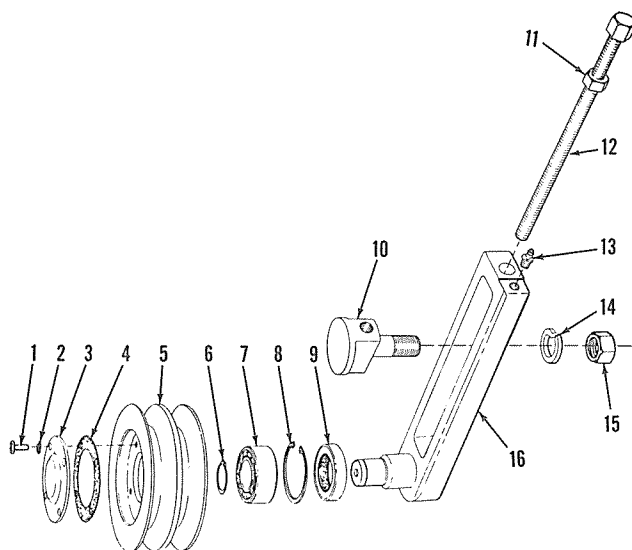
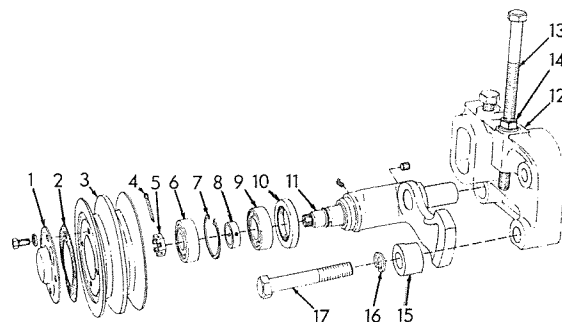

Fig. 9—Fan Belt Tightener Details
Fig. 10 — Fan Belt Tightener Details
d. Install fan (1) and fan spacer (2) if so equipped.
1. FAN BELT TIGHTENER REMOVAL, DISASSEMBLY, AND INSPECTION (TRACK-TYPE TRACTORS) Fig. 9
- Remove nut (15) and lockwasher (14) from slide clamping bolt (10) and remove fan belt tightener from fan mounting bracket.
- Remove pulley cover (3) and gasket (4).
- Remove front snap ring (6).
- Place tightener assembly in a press, pulley side up, and press fan belt tightener slide (16) from pulley (5).
- Remove oil seal (9) and rear snap ring (8) and drive or press ball bearing (7) from pulley (5).
2. FAN BELT TIGHTENER REMOVAL, DISASSEMBLY, AND INSPECTION (MOTOR GRADERS) Fig. 10
- Remove locking clamp capscrew (17), lockwasher (16), and locking clamp (15).
- Pull fan belt tightener assembly from fan mounting bracket (12).
- d. Remove pulley cover (1) and gasket (2).
- e. Place tightener assembly in a press, pulley end up. Press on front end of lever assembly (11) and press lever out of pulley (3).
- f. Drive or press front ball bearing (6) from pulley (3). Remove snap ring (7) and bearing spacer (8).
- g. Drive or press rear ball bearing (9) and oil seal (10) from pulley (3).
1. FAN BELT TIGHTENER ASSEMBLY AND INSTALLATION (TRACK-TYPE TRACTORS) Fig. 9
- a. Press ball bearing (7) into pulley (5) so that it is tight against counterbore in pulley.
- b. Install rear snap ring (8) and oil seal (9) with sealing lip of seal directed toward rear of pulley.
- c. Drive or press tightener slide shaft into position in pulley. Install front snap ring (6).
- d. Install gasket (4) and pulley cover (3).
- f. Lubricate fan belt tightener, through lubricating fitting (13), using clean ball and roller bearing lubricant.
2. FAN BELT TIGHTENER ASSEMBLY AND INSTALLATION (MOTOR GRADERS) Fig. 10
- a. Install snap ring (7) in pulley (3).
- b. Press rear ball bearing (9) into pulley (3) until rear face of bearing is below counterbore for oil seal.
- c. Press oil seal (10) into pulley (3) with sealing lip of seal directed toward rear of pulley.
- d. Place pulley (3) in a press, front end up. Center bearing spacer (8) on inner race of